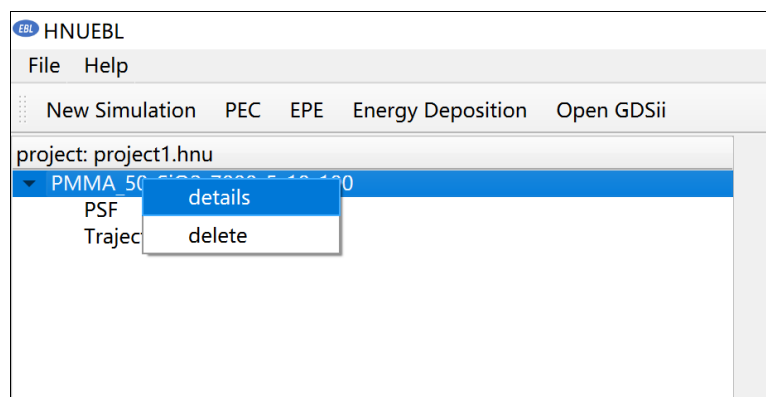

Figure 2.4.2 Coefficients of MC simulation result
- 6) If you want to view the fitting coefficients of the corresponding MC simulation results, you need to right-click the corresponding MC simulation result on the left and left-click "detail" to view (Figure 2.4.2)